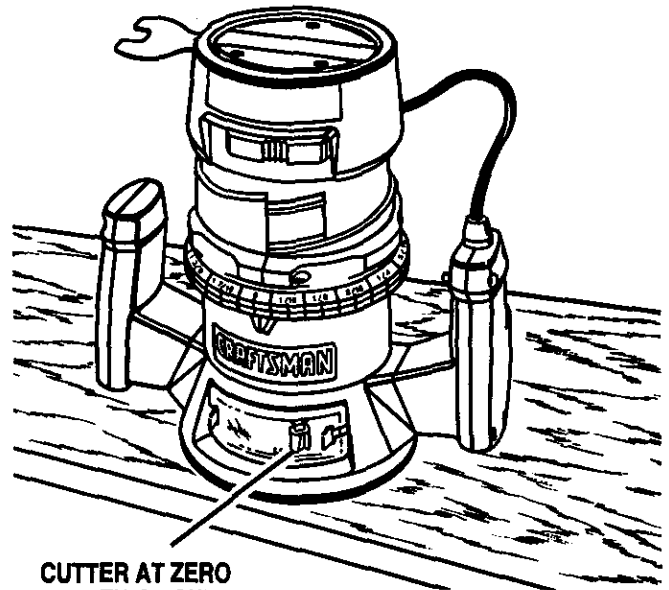

Fig. 5
- Turn depth adjusting ring until tip of cutter touches flat surface. Turn the depth indicator ring until the zero lines up with the indicator point on the base. **Note:** The depth indicator ring is also a zero reset indicator when setting cutter at zero depth of cut, then it becomes the depth adjusting ring. See Figure 5.